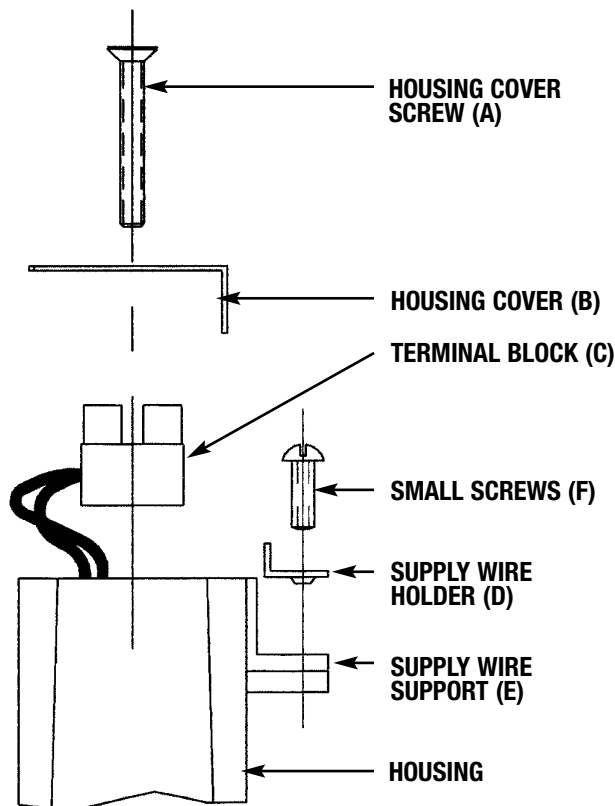

FIGURE 2
3. Remove housing cover screw (A) and remove housing cover (B) (See Fig. 2).
5. Insert each stripped conductor into the terminal block (C). Secure in place by tightening screws on terminal block.
6. Reinstall terminal block (C) and housing cover (B), and secure in place with screw (A).
7. Secure supply wire to housing by placing supply wire on support (E), then place supply wire holder (D) on supply wire and secure in place with small screws (F).